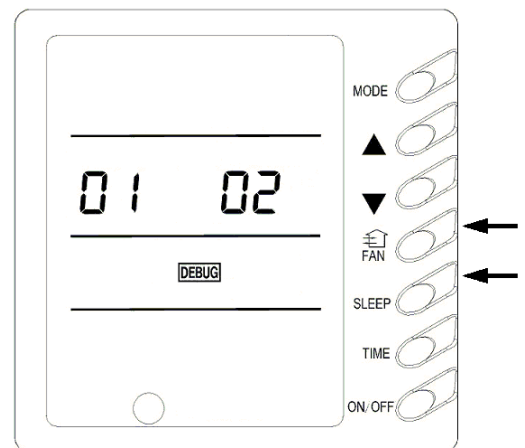

Fig.18
11) Debugging Function (Fig.18)